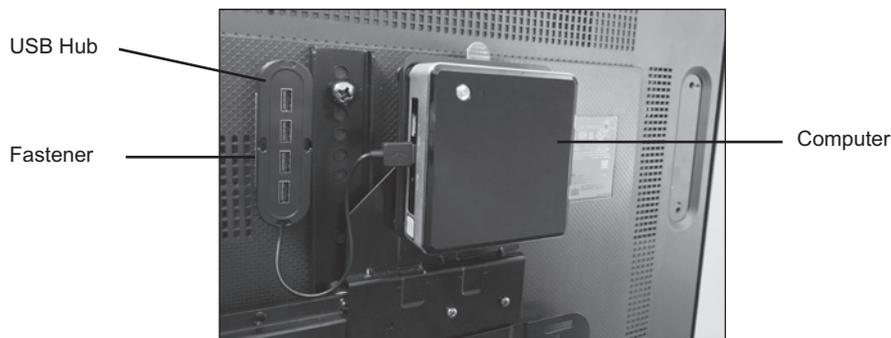

Figure 7: Securing the USB Hub
4. Remove the protective cover from the fastener and affix the USB Hub directly to the back of the Touchscreen Display positioned to the left of the mounting bracket. See Figure 7.